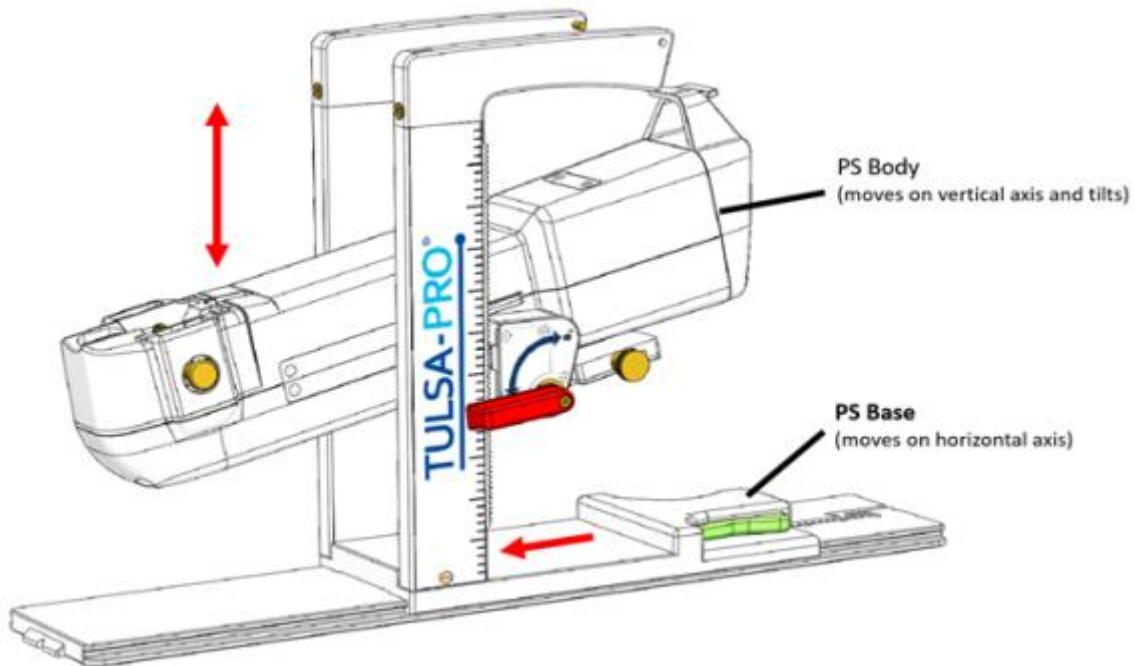

Figure 23: Adjusting the Positioning System
3. MRI Technologist: Manually move the PS into position so that the UA gripper aligns with the natural angle of the UA in the patient. Manually adjust the base of the PS forward and backward and up and down, and tilt the linear axis of the PS up and down (*Figure 23*).
**NOTE:** The PS adjustment knobs and levers are not colored as in *Figure 23*, but are colored here to help with these instructions.